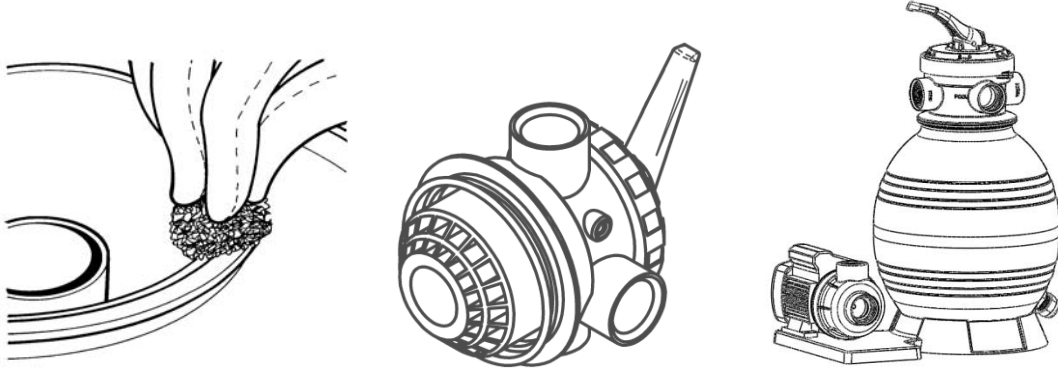

fig.5
5. Take away the funnel, and then clean really carefully the tank's neck and fix the 4 position valve with o-ring through flange clamp set. (the direction of "PUMP" port on valve needs to face pump out port). The flange clamp set is connected with screws and nut. (fig. 5)